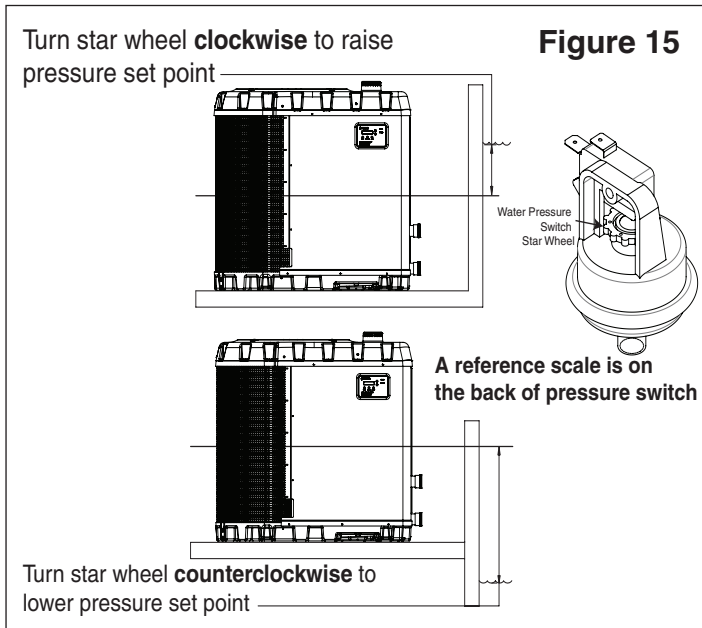

Figure 15
6. Slowly rotate the adjustment wheel on the water pressure switch in a counterclockwise direction until the "LOW WATER FLOW" Alarm shows on the LCD, the red SERVICE light turns ON, and the heater stops. See **Figure 15**.